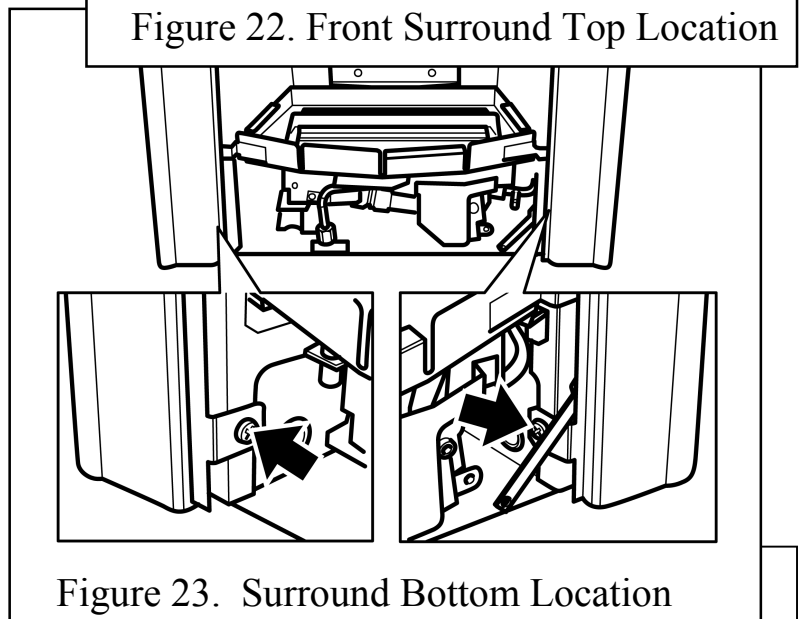

Figure 23. Surround Bottom Location
2. Swing the bottom control linking bar towards the centre of the fire to clear the right side of the surround. Slide the surround unit sideways, if necessary, to align the bottom fixing holes with those in the convection box. Fix the bottom of the surround unit to the convection box with two screws (See figure 23).